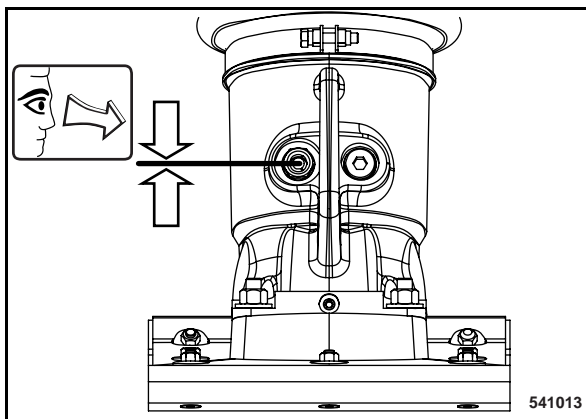

Fig. 38
- Clean the sight glass (Fig. 38).